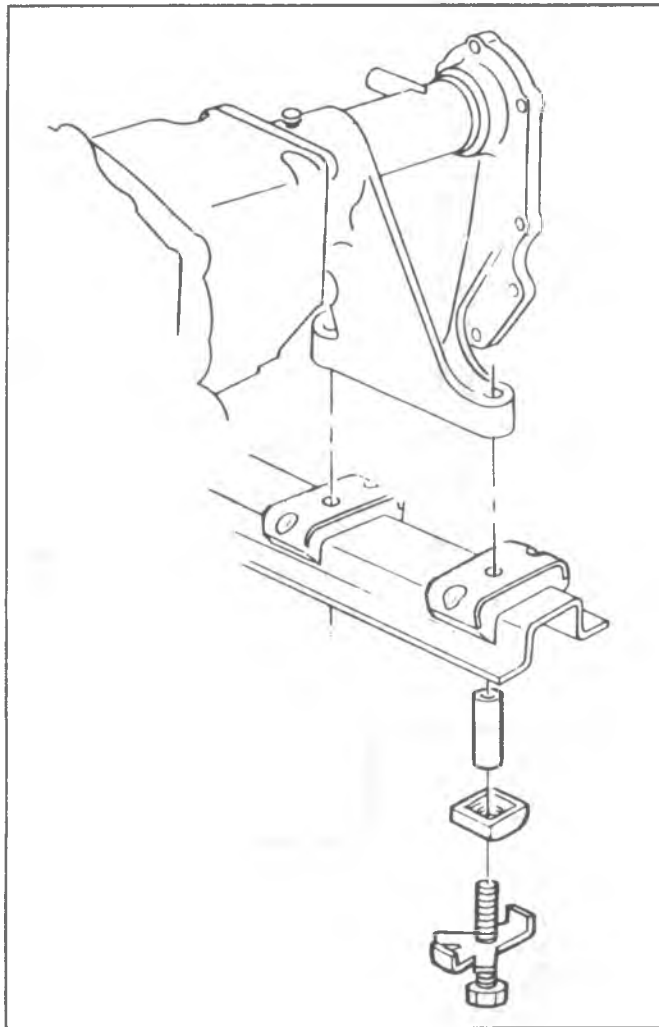

Fig. 6A1-7--"K" Series - Engine Rear Mount
12. Install bearing cap to case with sealant applied to the cap-to-case interface being careful to keep sealant off the seal split line (fig. 6A1-38).